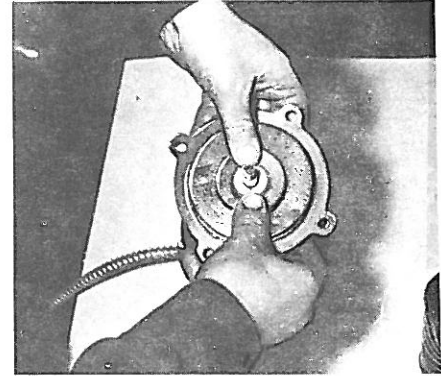

FIG. 7
8. Check again that the brass retaining washer is in place. Dip the new ceramic-rubber seal in water and slide it into the casting over the taped threaded shaft, so that the polished ceramic side is exposed. (See Fig. 7)